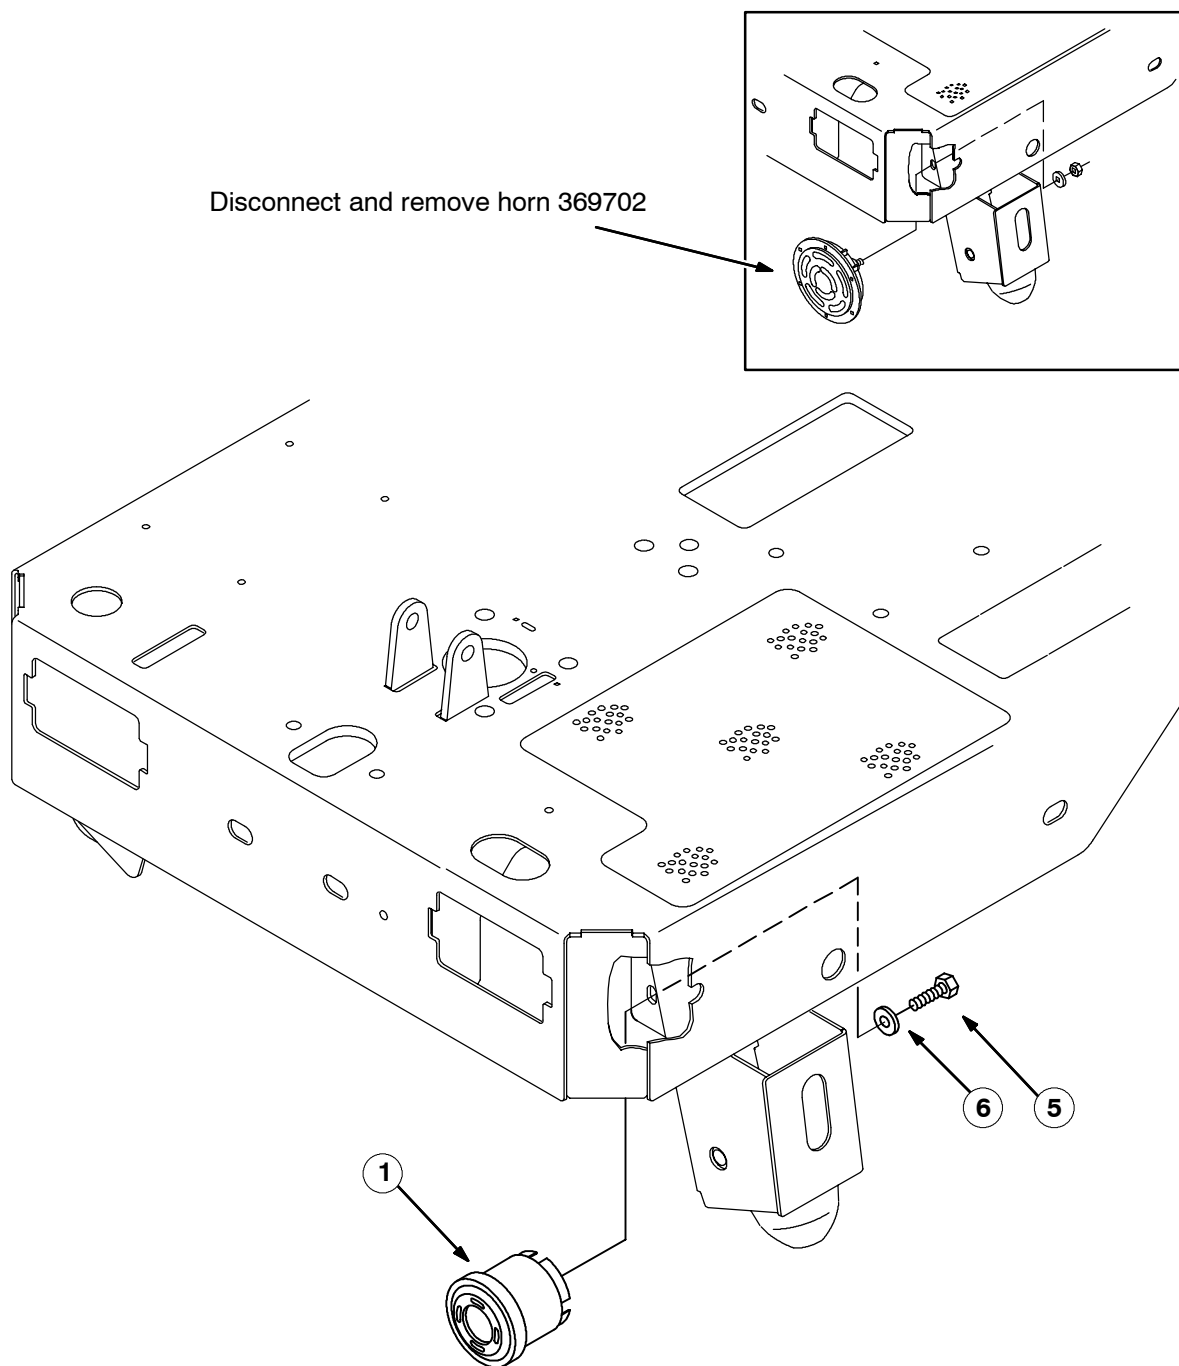

FIG. 2 - NEW HORN INSTALLATION
2. Disconnect the high dba horn (369702) from the wire harness. Disconnect and remove the high dba horn (369702) from the machine. (Refer to FIG. 2)
(Refer to FIG. 2)